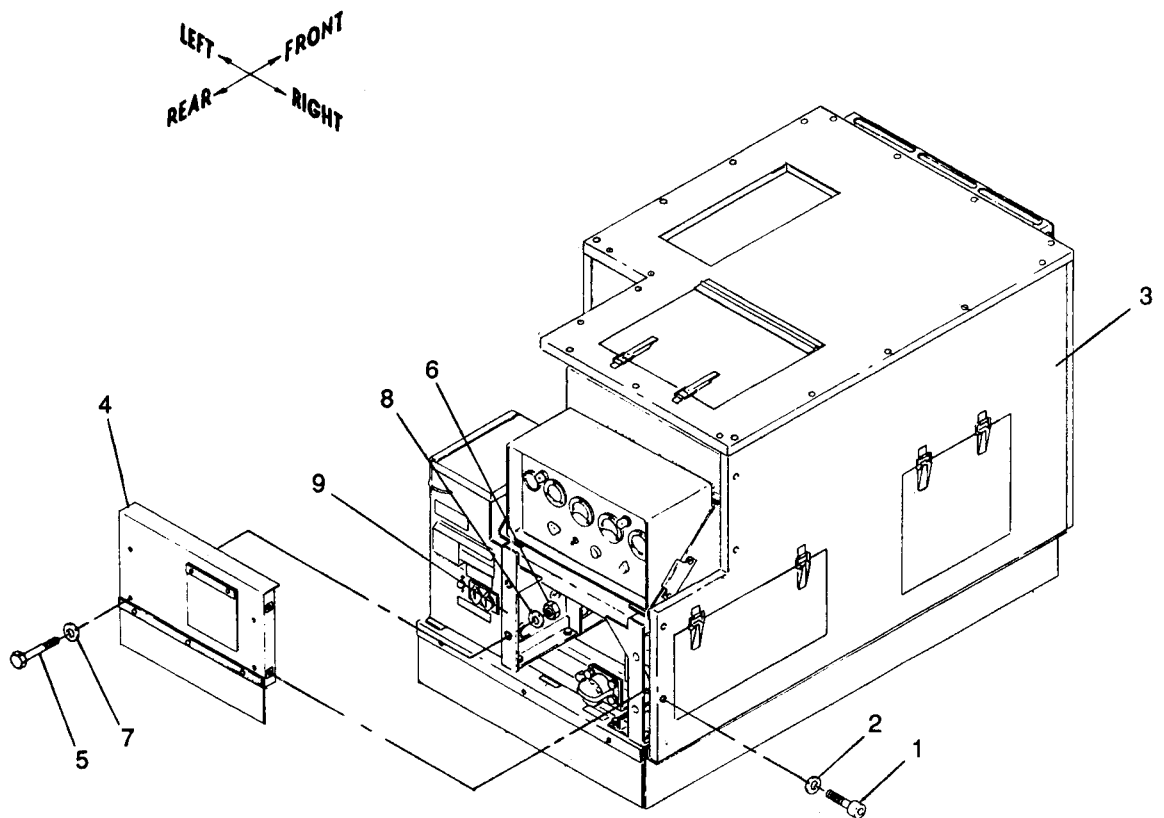

Figure 5-6. Rear Panel Assembly, Removal and Installation
a. Removal. See figure 5-6. Remove rear panel assembly from control cubicle support frame and right panel assembly as follows:
(1) Remove two screws (1) and washers (2) securing right panel assembly (3) to rear panel assembly (4) and remove rear panel assembly (4).
(2) Remove four screws (5) and locknuts (6), and eight washers (7 and 8) securing rear panel assembly (4) to control cubicle support frame (9).
b. Installation. See figure 5-6. Install rear panel assembly to control cubicle support frame and right panel assembly as follows:
(1) Position rear panel assembly (4) on control cubicle support frame (9) and install four screws (5) and locknuts (6), and eight washers (7 and 8) securing rear panel assembly (4) to control cubicle support frame (9).
(2) Torque screws (5) to 16  $\pm$ 2 ft-lbs dry.
(1) Rear Panel Assembly (refer to figure 5-6, item 4).